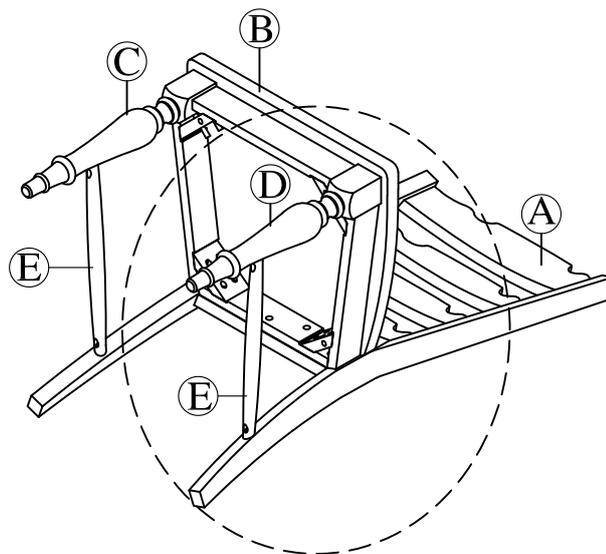

Fig.4
Repeat step 3 to attach the remaining Side Stretcher (E) and Front Leg (Right) (D) to Wooden Seat (B) as shown on Fig.4 .